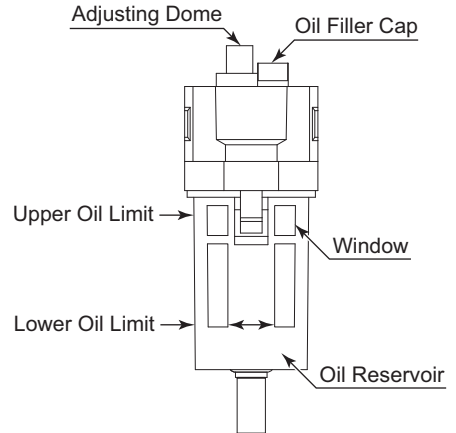

Fig. 4
(1) Oil Amount (Fig. 4)
(Supply Lubricating Oil to Upper Oil Level Limit of Fig. 4.)
(2) Replacing the Lubricating Oil and draining the water in the Lubricating Oil (Fig. 4)